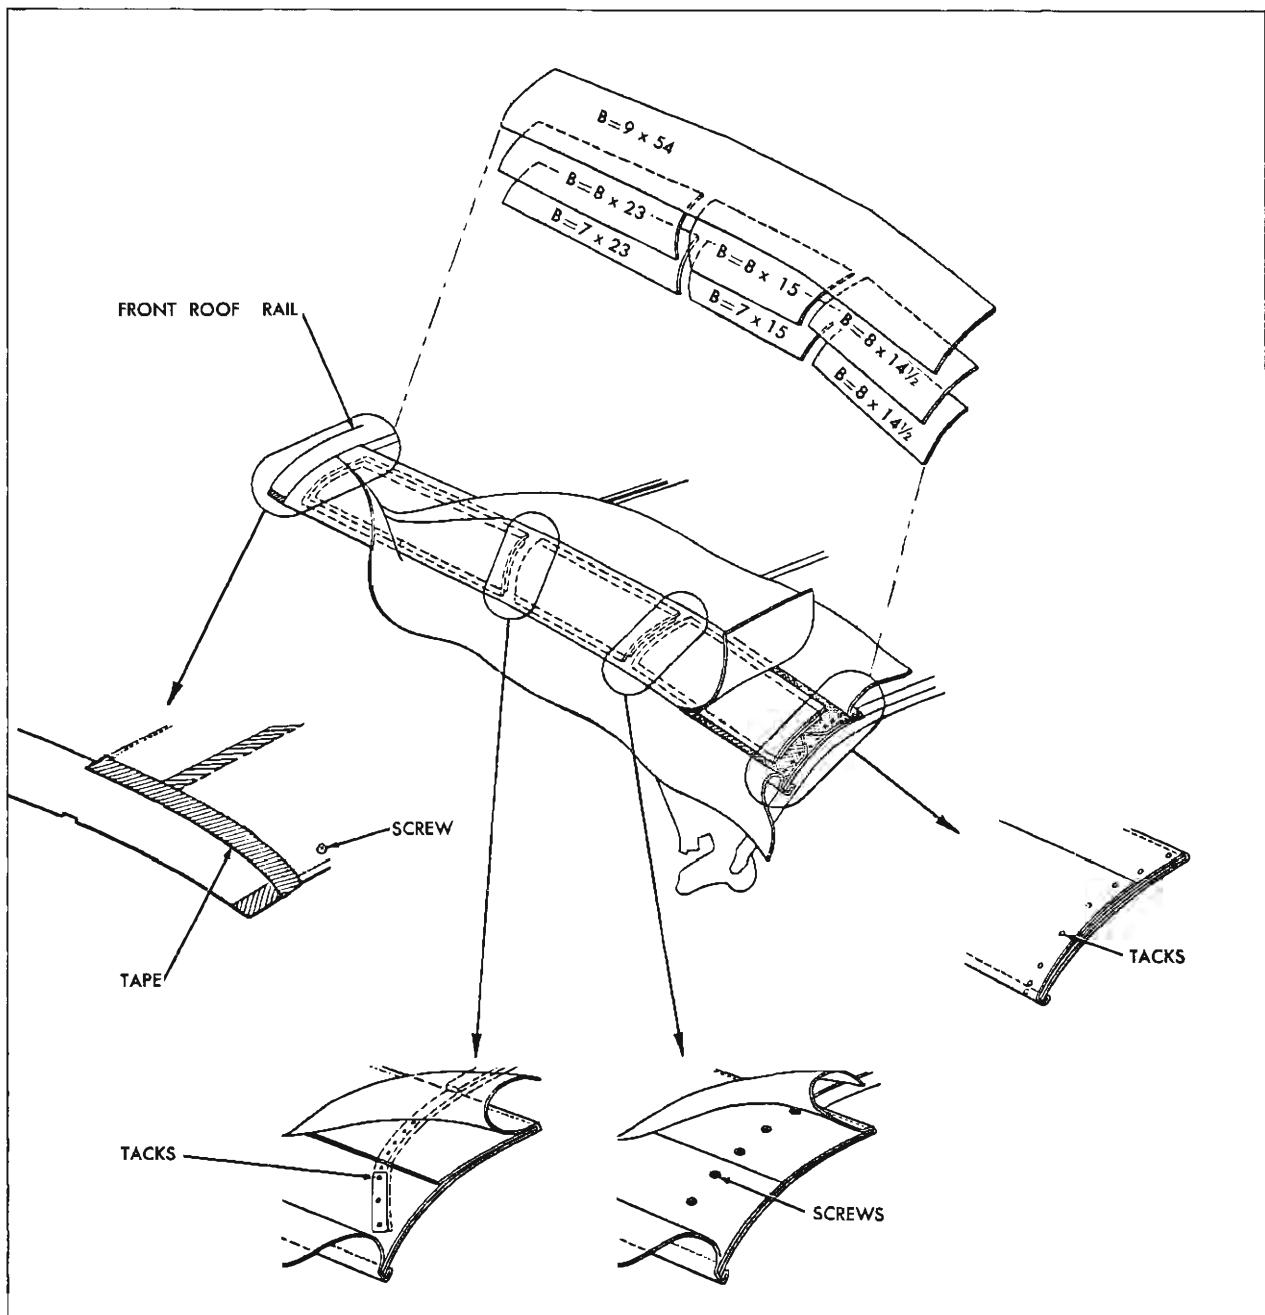
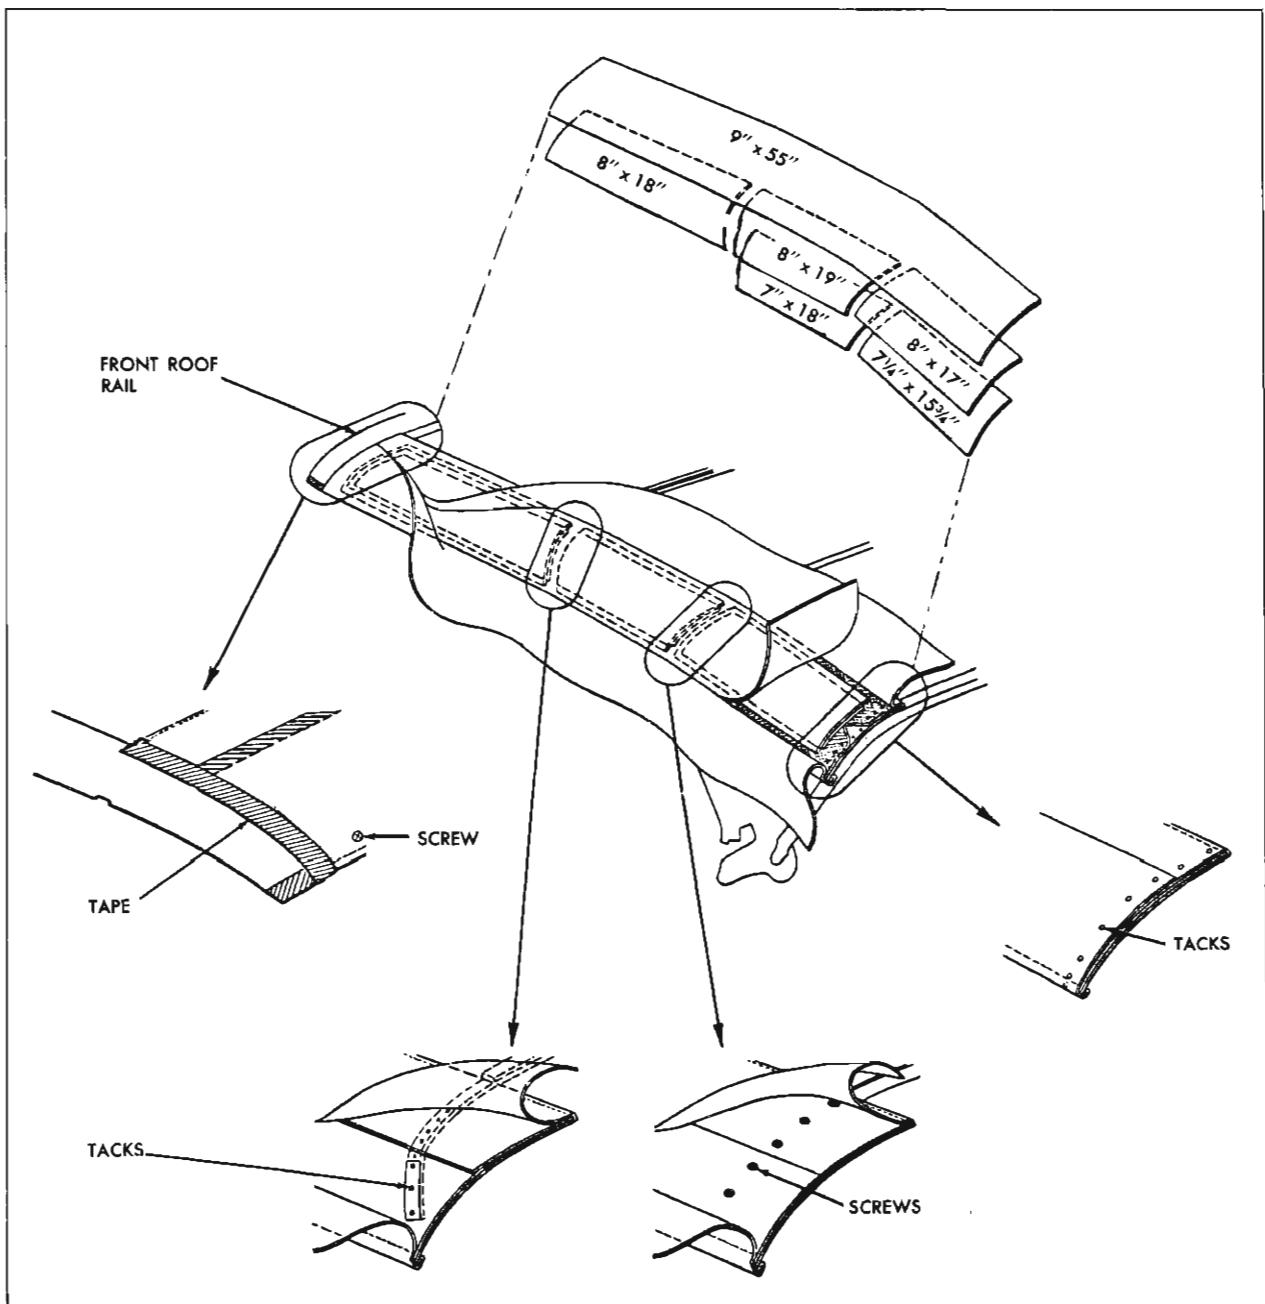

Fig. 21-38 Installation of Side Stay Pads (Pontiac Styles)
Fig. 21-39 Installation of Side Stay Pads (Tempest Styles)
3. Tack side stay pads in conventional manner to rear roof bow and front roof rail. Make sure inboard edge of pad is properly aligned within depressions in bow and rail. Tack stay pad to front bow. Inboard edge of pad should be located within 1/4 inch of outboard edge of front bow felt silencer. Install pad to center bow with screws. Make sure inboard edge of pad is properly aligned within depression in bow. Install stay pad wadding in conventional manner using an approved trim cement. (Fig. 21-38 for Pontiac styles—Fig. 21-39 for Tempest styles).